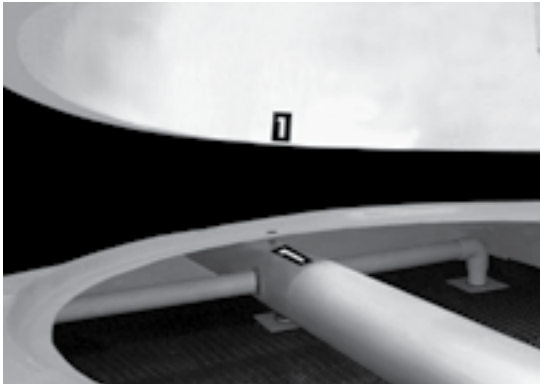

Figure A-79: Fan Duct alignment for a Modular Tower
- G. Then cradle/straddle the fan support with the straps (as shown in figure A-79) so you can lift the fan duct with a crane and assemble it.